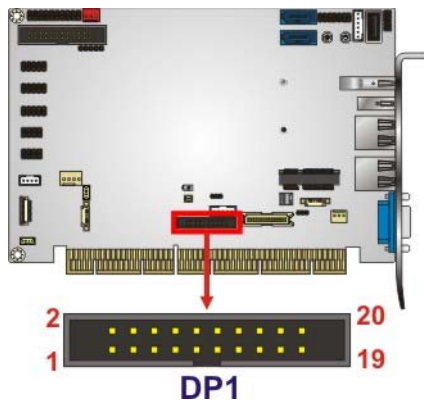

Figure 3-13: Internal DisplayPort Connector Location
- CN Location:** See **Figure 3-13**